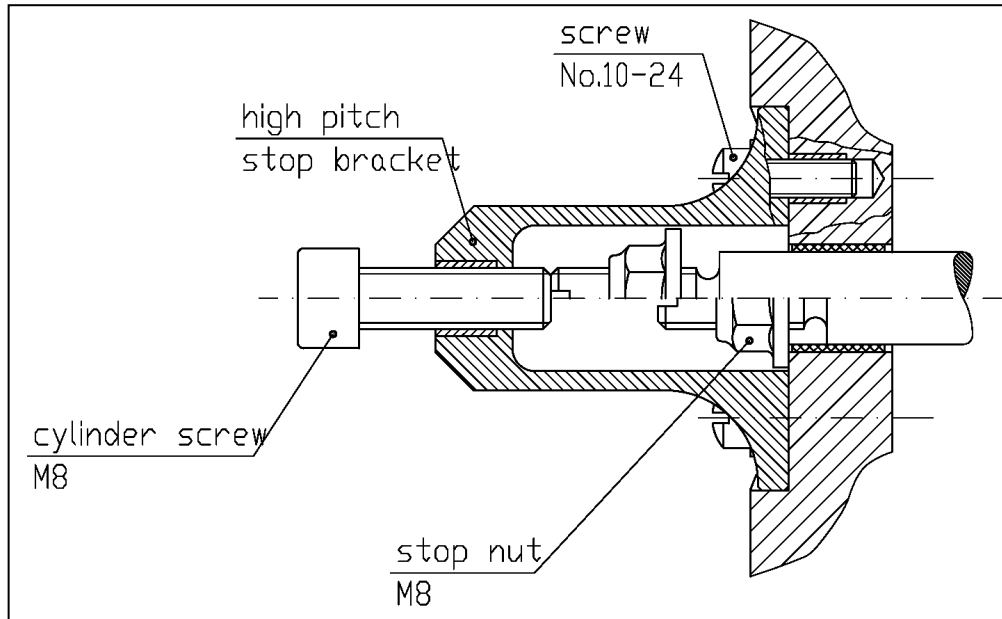

Fig. 8-1 Low and high pitch stops
8.1.1 Adjustment of low pitch stop (Refer to Figure 8-1)